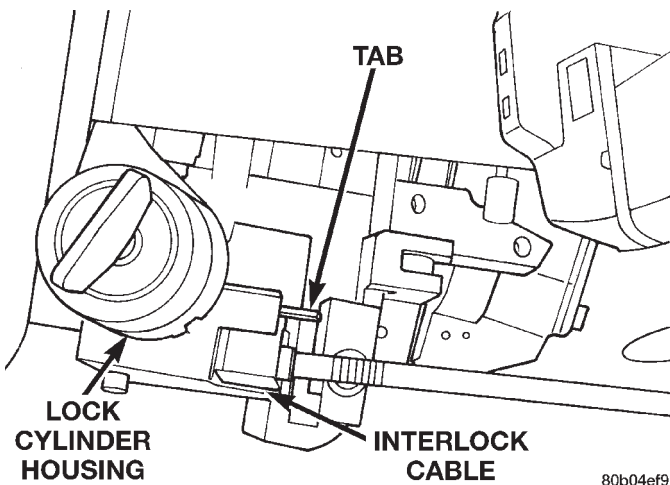

Fig. 30 Interlock Cable at Ignition Switch
- (3) Remove the drivers side under panel silencer.
- (4) Remove the tilt lever attaching screw. Remove lever.
- (5) Remove upper and lower covers from the steering column.
- (6) Loosen the locking clip on the interlock cable.
- (7) Move ignition key to the OFF position.
- (8) Remove the interlock cable from the shifter housing. Slide the cable out of the groove in the interlock lever.
- (9) Depress the lock tab on the interlock cable and pull the cable out of the lock cylinder housing (Fig. 30).